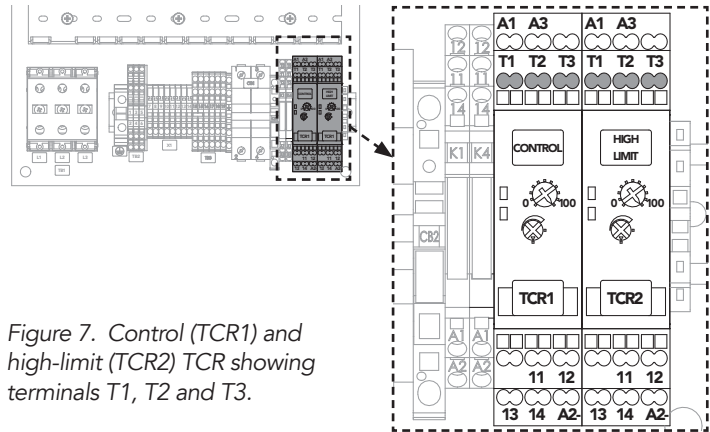

Figure 7. Control (TCR1) and high-limit (TCR2) TCR showing terminals T1, T2 and T3.
3. Using the ohmmeter, measure the resistance between TCR terminals **T1** and **T2** (See Figure 7):